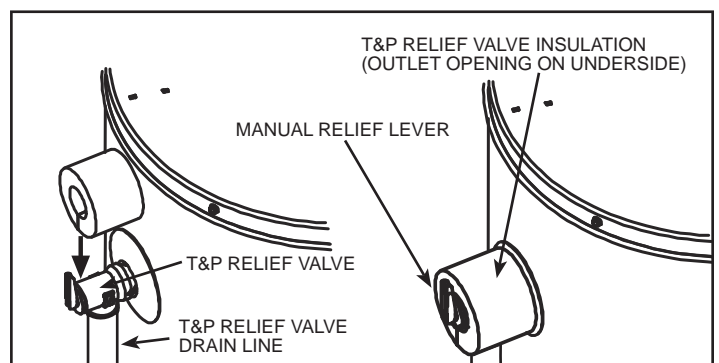

Figure 9. T&P Valve Insulation
Locate the temperature and pressure relief valve on the water heater (also known as a T&P relief valve) (see Figure 9).
2. Spread the slit open and fit the insulation over the T&P relief valve (see Figure 9). Apply gentle pressure to the insulation to ensure that it is fully seated on the T&P Relief Valve. Once seated, secure the insulation with duct tape, electrical tape, or equivalent.
Important: The insulation and tape must not block the discharge opening or hinder access to the manual relief lever (Figure 9). Ensure a discharge pipe is installed into the T&P valve discharge opening per the instructions in this manual.